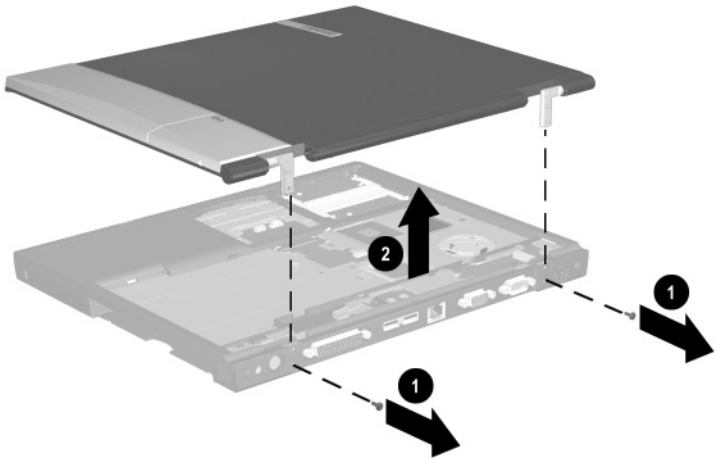

Figure 5-19. Removing the Display
9. Remove the two TM2.5 × 7.0 screws ❶ that secure the display to the base enclosure (Figure 5-19).
10. Lift the display straight up and remove it from the base enclosure ❷.